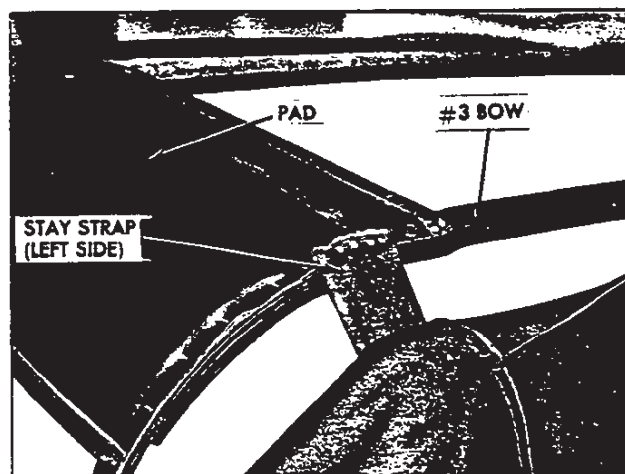

Fig. 75—Installing Stay Strap
5. Lock down rear bow in desired "top up" position. Pull up stay straps and staple or tack to #3 bow (fig. 75).